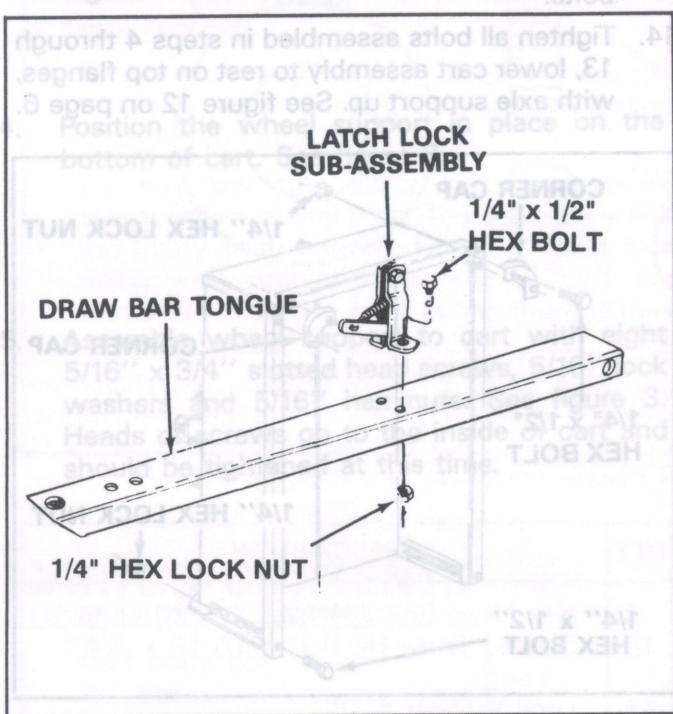

FIGURE 10
16. Assemble latch lock subassembly to drawbar tongue using $1/4'' \times 1/2''$ long hex bolt and $1/4''$ hex lock nuts. See figure 10.